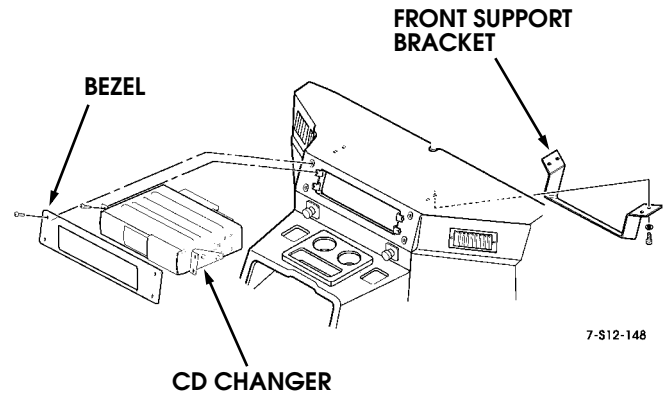

Figure 12-114.4: CD Changer Removal.
1. Remove four screws retaining the CD changer bezel to the console and remove bezel (Figure 12-114.4).